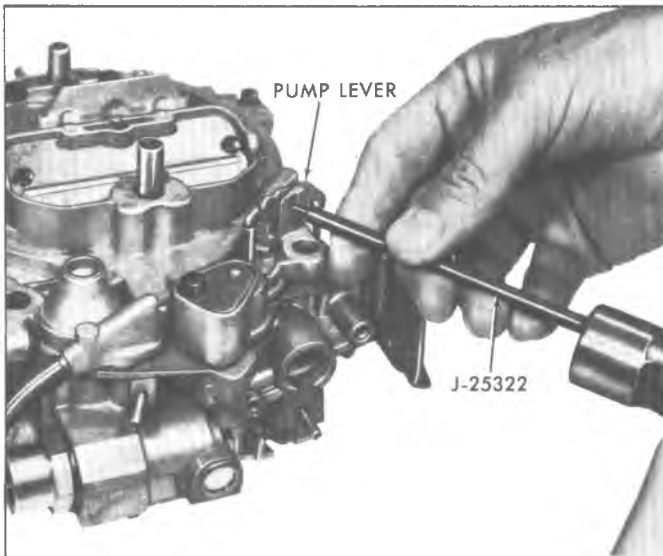

Fig. 4MQ—Removing Pump Lever
5. Using special tool J-25322, drive small roll pin (pump lever pivot pin) inward just enough until pump lever can be removed from air horn. Then remove pump lever from pump rod (Fig. 4MQ).